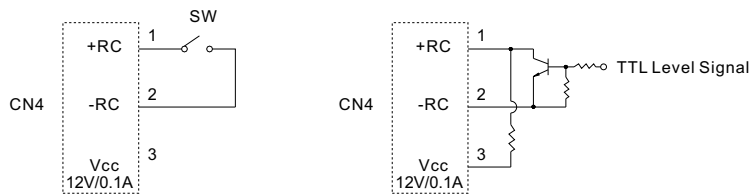

Figure 3-2 Connection for the remote ON/OFF control function of the whole power system
⊙ Built-in 12V/0.1A auxiliary output that can be used as the voltage source of remote ON/OFF control application for individual output modules or the whole modular system. Please refer to figure 3-2 and 3-3 for wiring methods.
- ⊙ The auxiliary output on the power supply can be used as the external control source of the remote ON/OFF control function. Please refer to figure 3.2 for connecting methods.